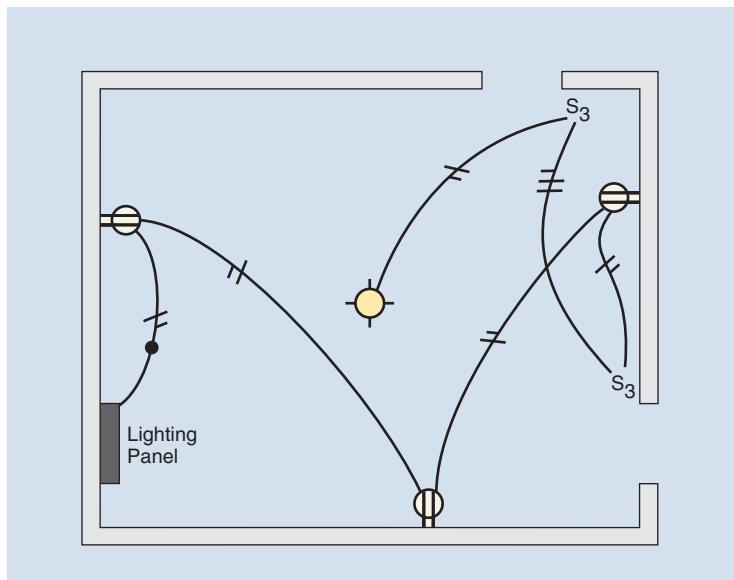

FIGURE 8-5 Typical cable layout. (*Delmar/Cengage Learning*)
1. Refer to plans and make a cable layout of all lighting and receptacle outlets, as in Figure 8-5.